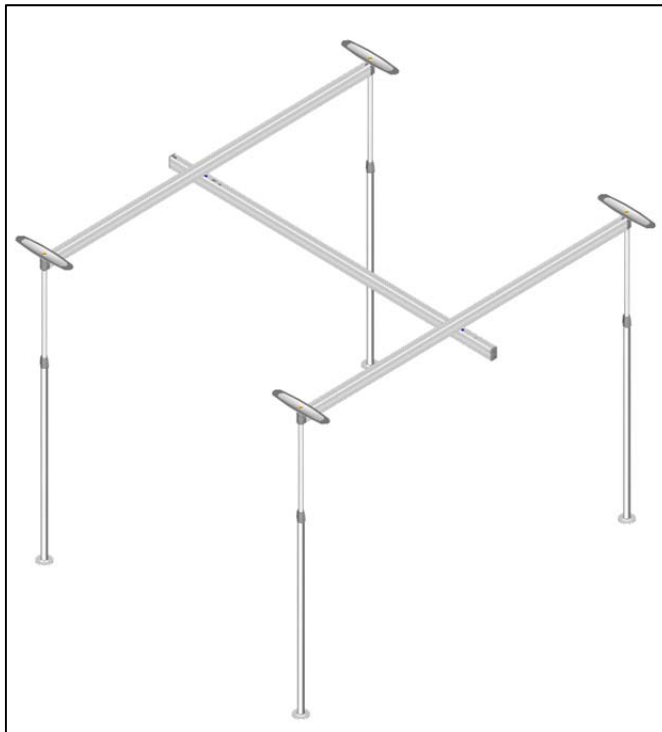

Figure 55
**See Figure 55 for photo of assembled 4-Post EASYTRACK SYSTEM.**
- ☐ **Check your installation against Figure 55.**